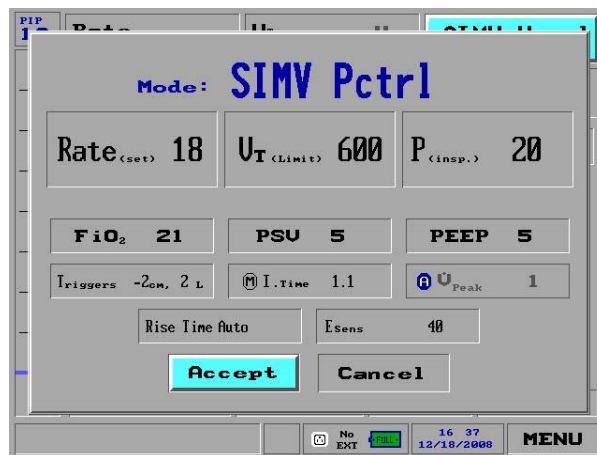

Figure 33: The SIMV Pressure Control Parameters Screen
4. Press the knob to accept the selection. The **SIMV Pressure Control Parameters** screen appears (Figure 33).